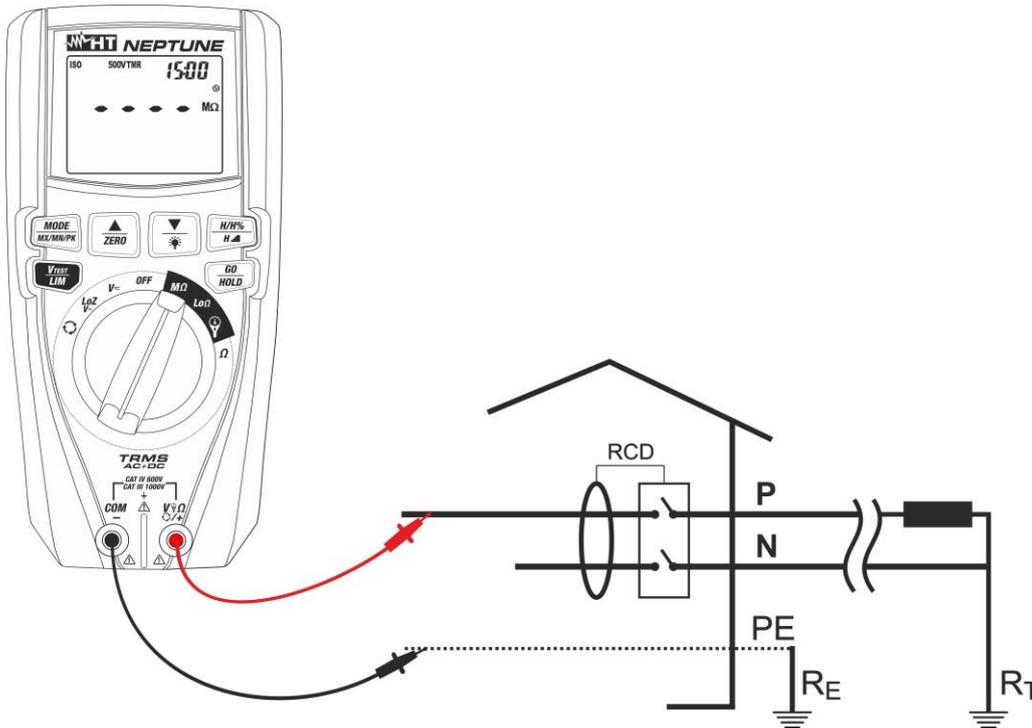

Fig. 19: Use of the instrument for insulation resistance measurement in TMR mode
6. Insert the red lead into input terminal $V_{\Omega}^{\oplus}/+$ and the black lead into input terminal $COM/-$ and possible alligator clips, and connect the instrument to the system to be tested (see Fig. 19).